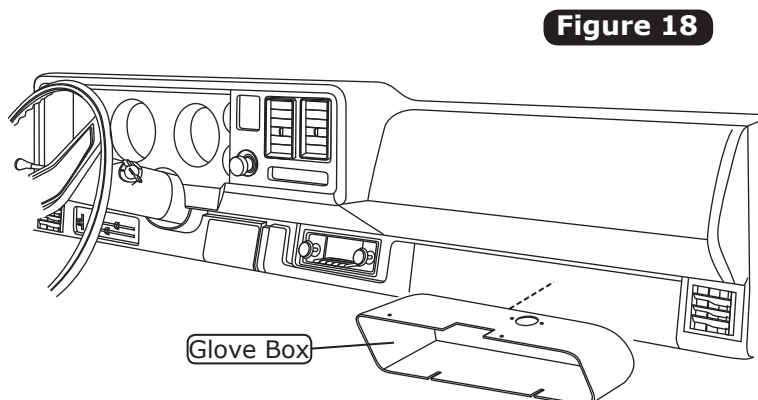

Figure 18
6. Install the glove box (See Figure 18, below).
1. Install the supplied glove box, and secure it using OEM screws through the OEM holes (See Figure 18, below).